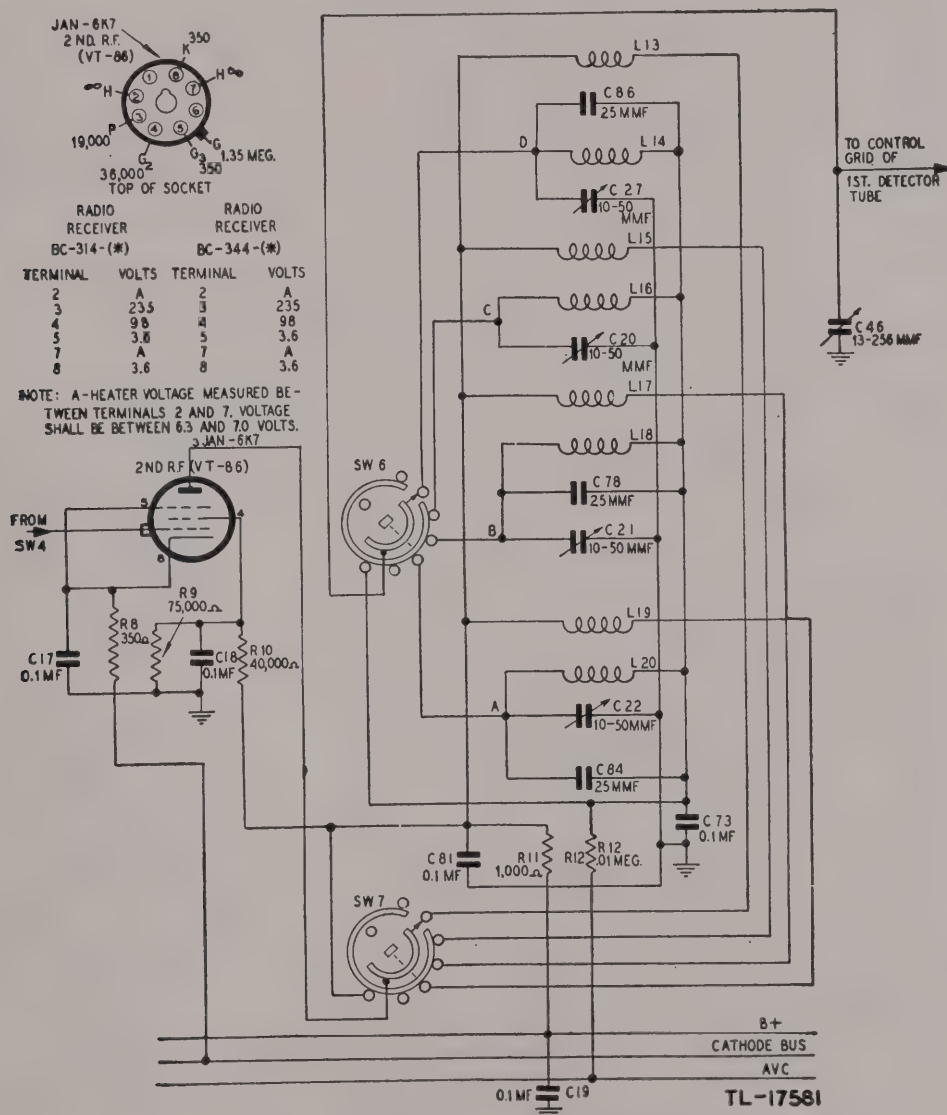

Figure 21. Second r-f amplifier, schematic diagram.
b. VOLTAGE AND RESISTANCE MEASUREMENTS. The voltage and resistance measurements shown in figure 21 are made in the manner and under the conditions listed in paragraph 40b.